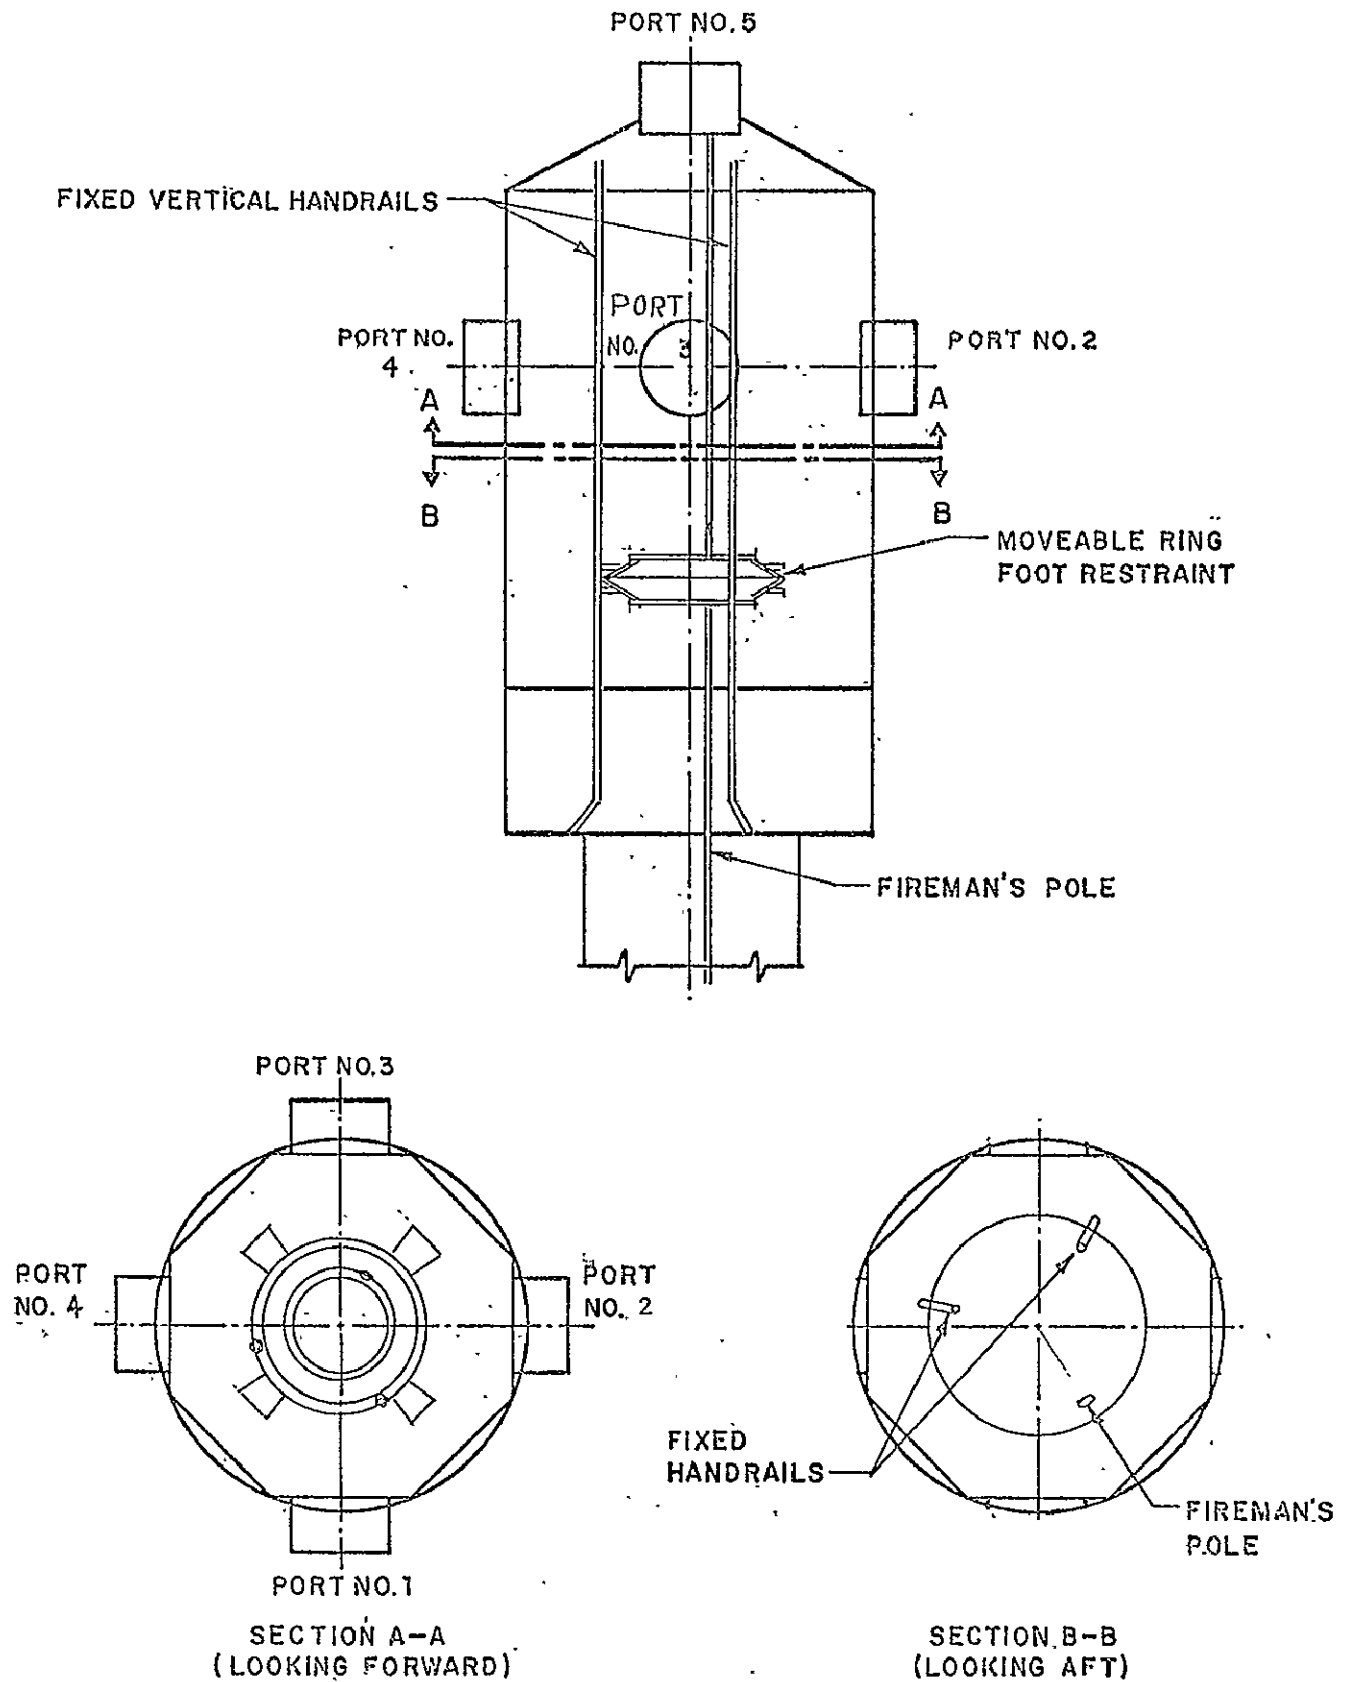

FIGURE 4. RING FOOT RESTRAINT MOBILITY AID CONCEPT
- d. Moveable Ring Foot-Restraint (MRFR); and fixed vertical handrails (See Figure 4).